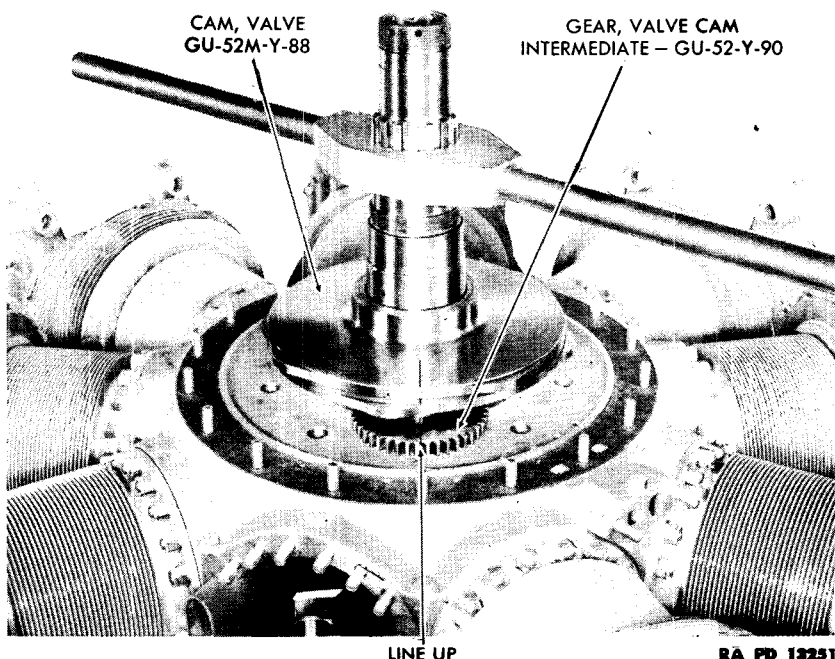
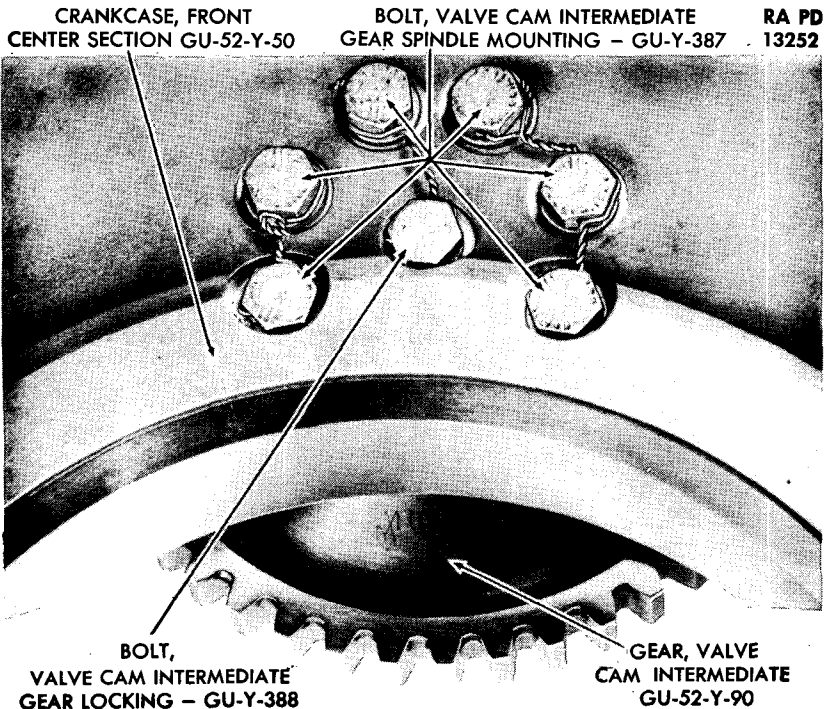

Figure 88—Marking Gears for Valve Timing Correction
Figure 89—Intermediate Gear Bolts Safety-Wired
- (5) **COMPLETE THE TIMING OPERATION.** When the engine is correctly timed, the crankcase front section and the push rods should again be removed; and the valve cam, intermediate gear and crankshaft gear should be marked (fig. 88) with electric pencil. Thus, during future assembly operations, these parts can be lined up and it will not be necessary to go through the timing procedure. Install the nut on the intermediate gear locking bolt GU-Y-388. Safety-wire the intermediate gear bolt, wiring it (fig. 89) through the cylinder barrel opening of No. 4 cylinder. Then remove the 0.040 to 0.050-inch shim which was placed between the rear of the crankshaft and the bearing liner. Replace the piston and cylinder barrel at No. 4 cylinder opening.